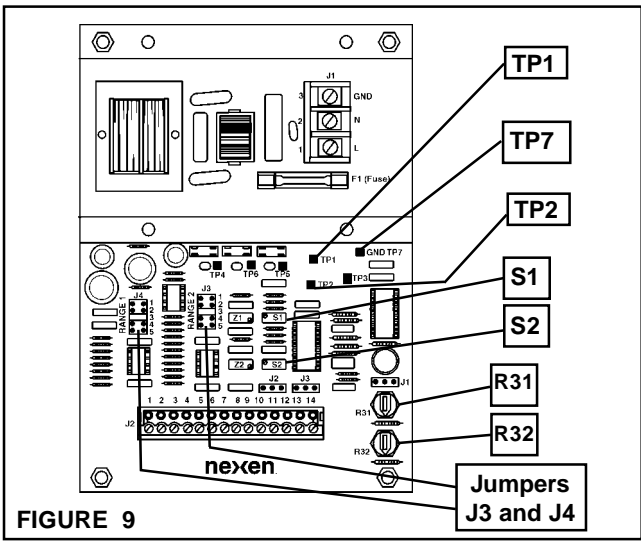

FIGURE 9
2. Connect a voltmeter to **TP7 (COM)** and **TP1** (See Figure 9).
3. Rotate **S1** clockwise to _____VDC, increasing the reading at **TP1** (Example: Maximum Tension = 100 Lbs. with a 50 Lb. weight, adjust the output for 5.0 VDC) (See Figure 9).